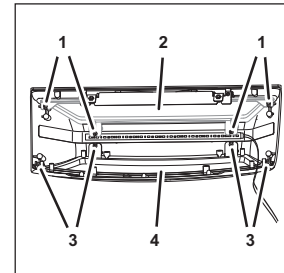

Fig. 30
6. Remove the fastening bolts (Fig. 30/1) from the rear promotional pane (Fig. 30/2).
7. Remove the fastening bolts (Fig. 30/3) from the front promotional pane (Fig. 30/4).
12. Attach the front promotional pane (Fig. 30/4) using the fastening bolts (Fig. 30/3).
13. Attach the rear promotional pane (Fig. 30/2) using the fastening bolts (Fig. 30/1).